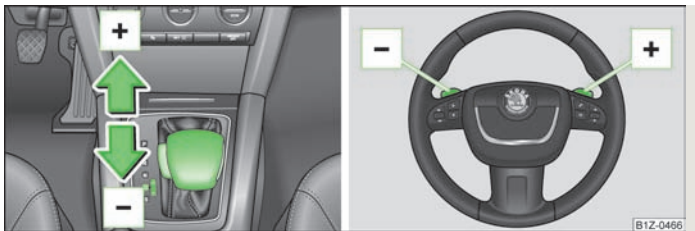

Fig. 103 Selector lever and multifunction steering wheel
- Press the selector lever forwards **+** » Fig. 103.
- Pull the right rocker switch **+** » Fig. 103 towards the multifunction steering wheel.
- Pull the left rocker switch **-** » Fig. 103 towards the multifunction steering wheel.